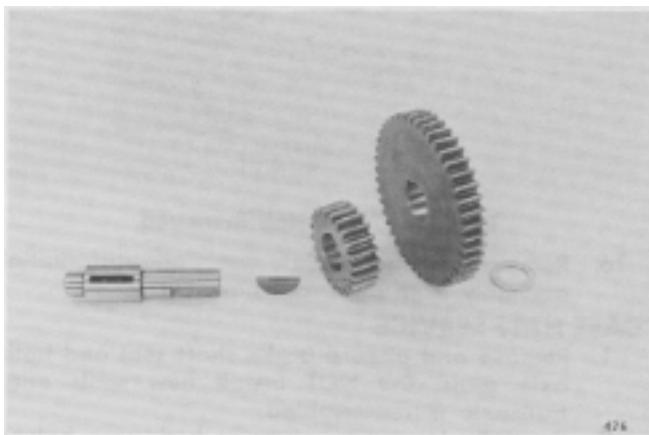

FIG. 30. Intermediate Gear Assembly
1. First intermediate gear assembly sequence is shown in Figure 30. Parts are a slip-to-light press fit. Second intermediate gear and pinion are very tight fits and normally require a large press to separate them.